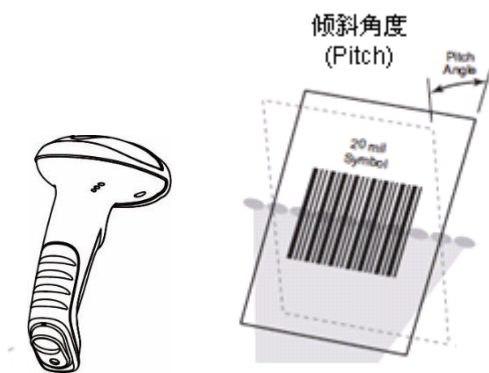

Fig. 1-11
- ✧ Pitch : $\pm 55^\circ$, 0° Roll and 0° Skew (Fig. 1-11)